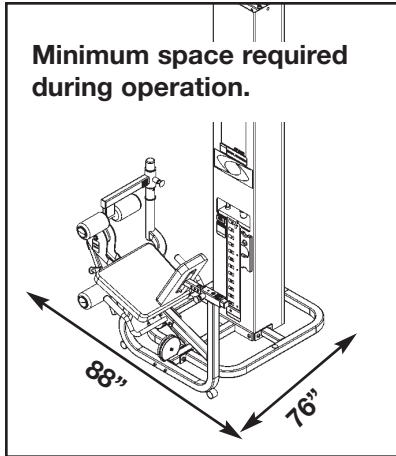

Figure 1
2. Verify you have received the appropriate configuration (see steps 2A - 2C, Figures 1 and 2).
- D. For Free Standing configurations, allow a minimum amount 88" x 76". See Figure 1.